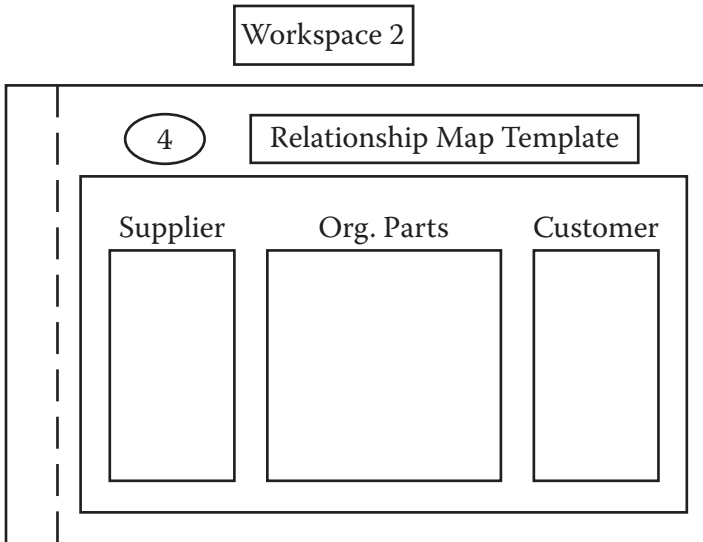

Figure 4.23 Relationship map template in workspace 2.
4. Create a “basic relationship map” template and place it in “workspace 2” (Figure 4.23).